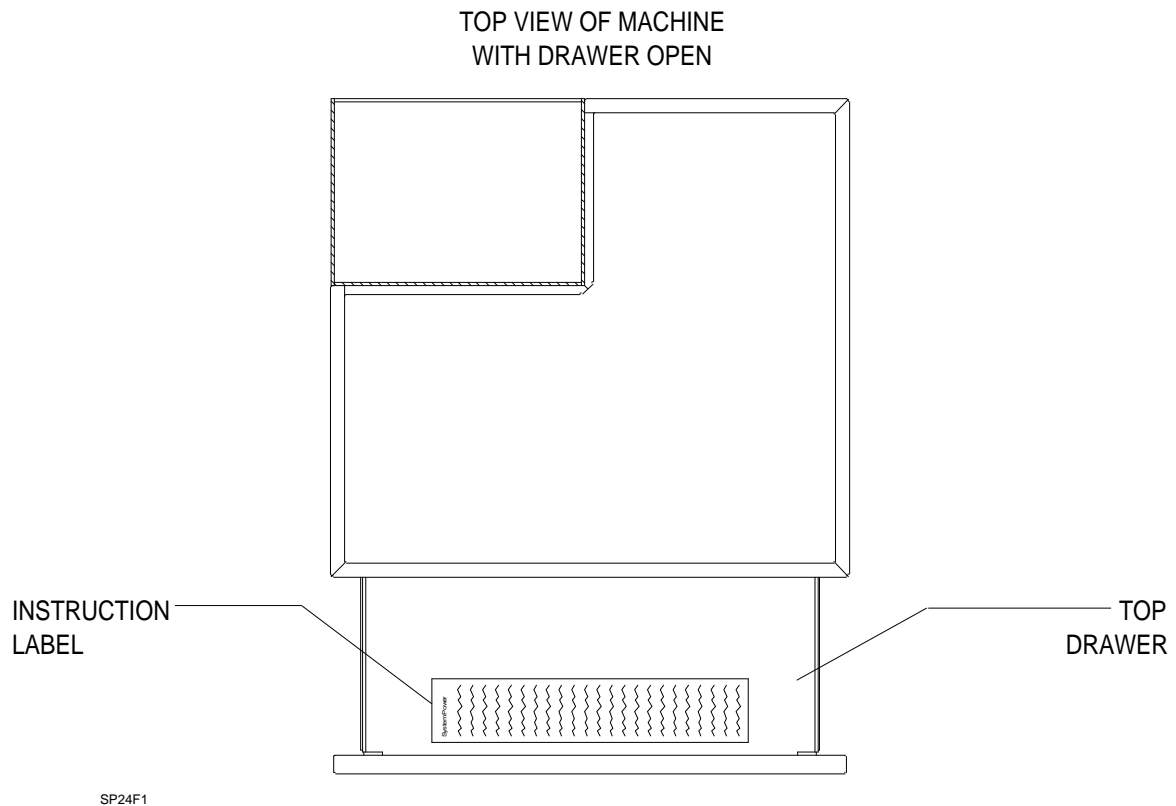

Figure 2: NEW INSTRUCTION LABEL LOCATION
18. Attach a new instruction label to the inside bottom of the top cabinet drawer as shown in Figure 2.